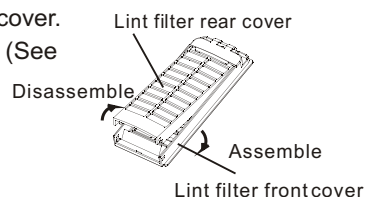

Figure 2
Pull the lower end of lint filter rear cover outward to disassemble it from the lint filter front cover. Remove lint completely with clear water. (See Figure 2).
- (1).Install the corrugation pipe.
- (2).Insert the mounting plate at the bottom of the filter into the valve cover.
- (3).Hang up the hook at the left upper side.
- (4).Push the upper part in as indicated in Figure 2.